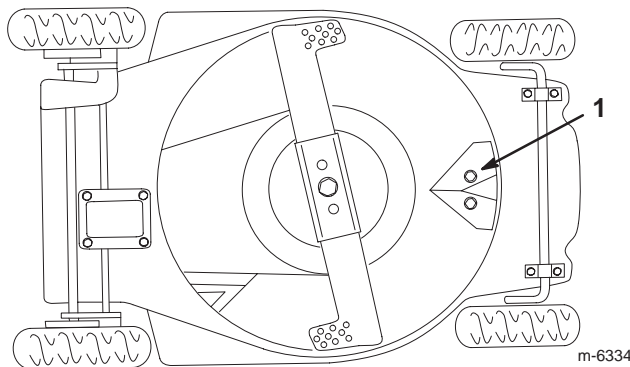

Figure 19
Keep the underside of the housing clean. Be especially careful to keep the kickers free of debris (Fig. 19).
4. Tip the lawn mower onto its **left** side (Fig. 19).